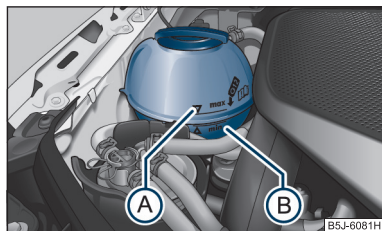

Fig. 142 Engine compartment: Coolant expansion bottle
- Check the level of coolant in the coolant expansion bottle ⇒ fig. 142. The coolant level when the engine is cold must lie between the "MIN" (B) and "MAX" (A) markings. The level may also rise slightly above the "MAX" marking when the engine is warm.
- Place a cloth over the cap of the coolant expansion reservoir ⇒ fig. 142 and unscrew the cap **carefully** by turning it to the left ⇒ ⚠.